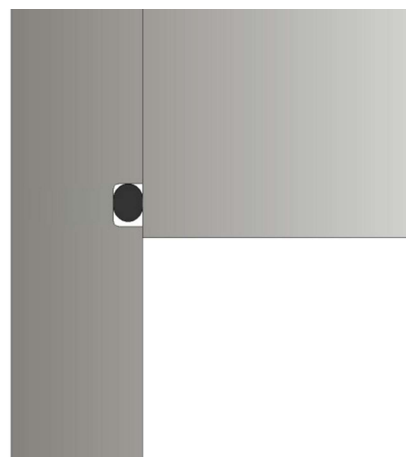

Figure 17 – HP & LH end cover
- Place the O-ring (120) in the end cover groove, ensuring that it seats evenly. (Figure 17)